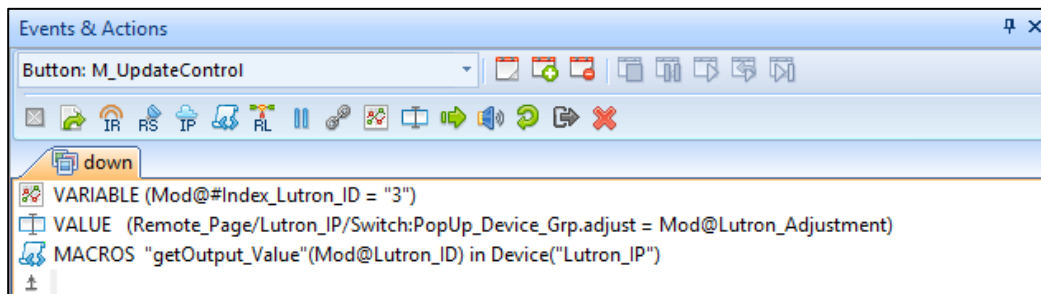

Figure 33 - M\_UpdateControl Events and Actions, “down” state
- d. For the newly created button, “M\_UpdateControl”, create a “down” event and add these three actions in this order: Variable Change, GUI Action, and Bi-Directional Macro Action (Figure 33).